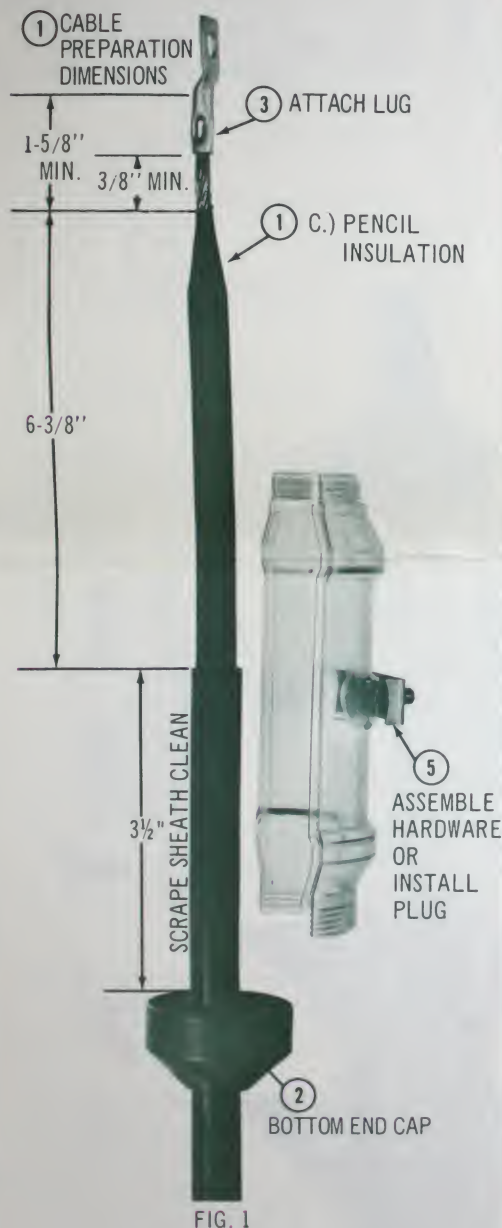

FIG. 1
- 1 CABLE PREPARATIONS - Use exact dimensions shown at right of Fig. 1.
(c) PENCIL INSULATION - Remove insulation on conductor as shown in Fig. 1. Pencil insulation to prescribed length.
Attach lug to dimensions as shown in Fig. 1. When using a conductor lug or pin terminal, it must be of correct conductor type and size. The lug or pin terminal will be of the closed end type with a minimum barrel length of 1/4". (similar to ones below).